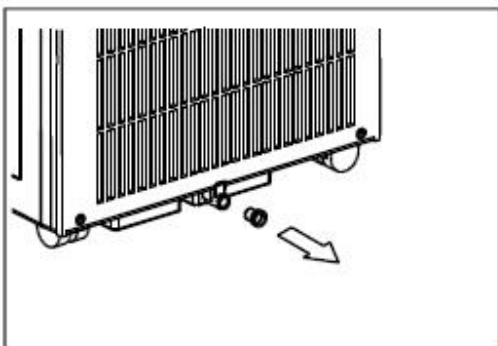

Fig. 24
- 1) Carefully move the unit to a drain location, remove the bottom drain plug and let the water drain away. Refer to Fig. 24.
- Remove the plug from the bottom drain outlet allowing any water in the bottom tray to drain out (See Fig.24).